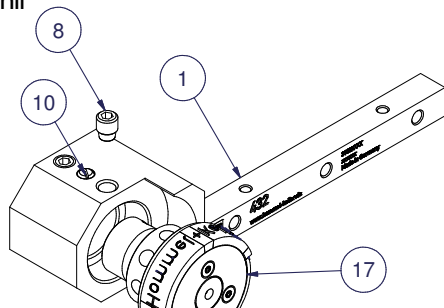
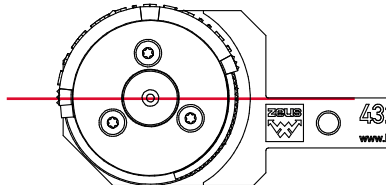

Figure 7: Installation of the carrier unit
Figure 8: Positioning of the carrier unit
Then, insert the complete carrier unit (incl. assembled spring housing) into the hole of the holder (Fig. 7). Ensure that the starting point is aligned at the height of the centre height (top shank edge) (Fig. 8). If the spring-mounted pressure piece (Fig. 7, pos. 10) engages in the circumferential groove of the stop washer, the carrier unit is secured axially. If necessary, the spring-mounted pressure piece (Fig. 7, pos. 10) must be re-adjusted. Then, secure the carrier unit with the threaded pin (Fig. 7, pos. 8).
First turn the carrier unit (Fig. 7, pos. 17) by hand CCW to the mechanical stop. When you release the carrier unit, it must return to the starting position of the marking. Then, turn the carrier unit slightly. During this movement the carrier unit must again spring back to the starting position on its own.